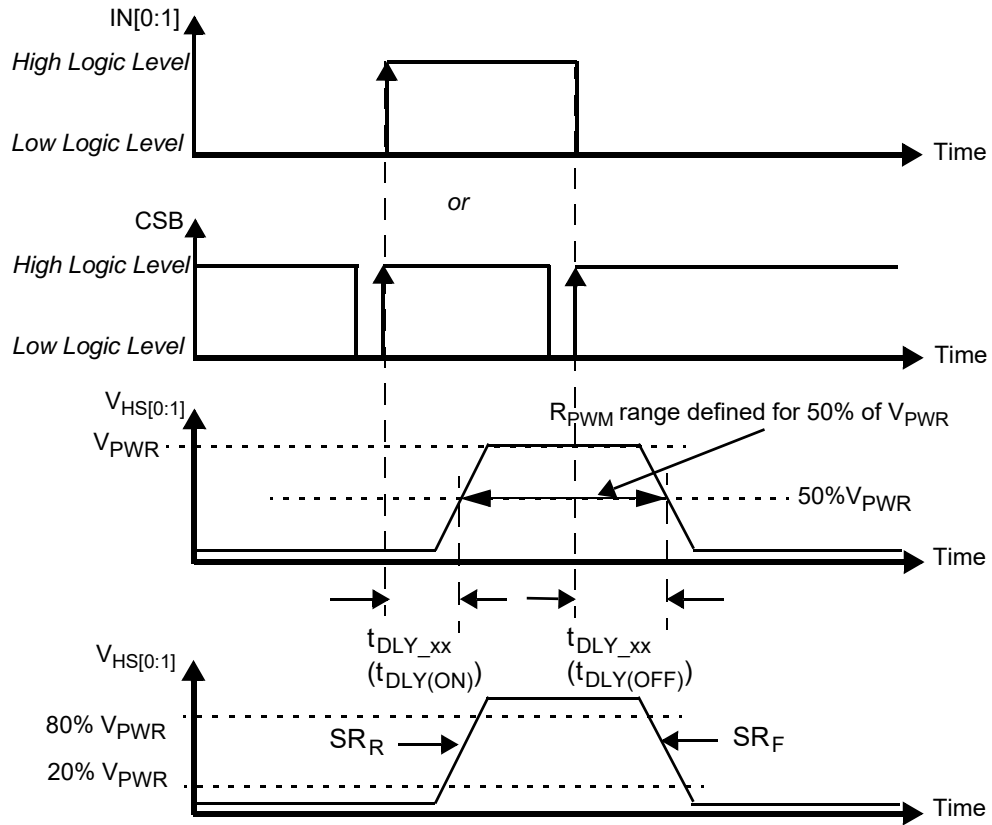
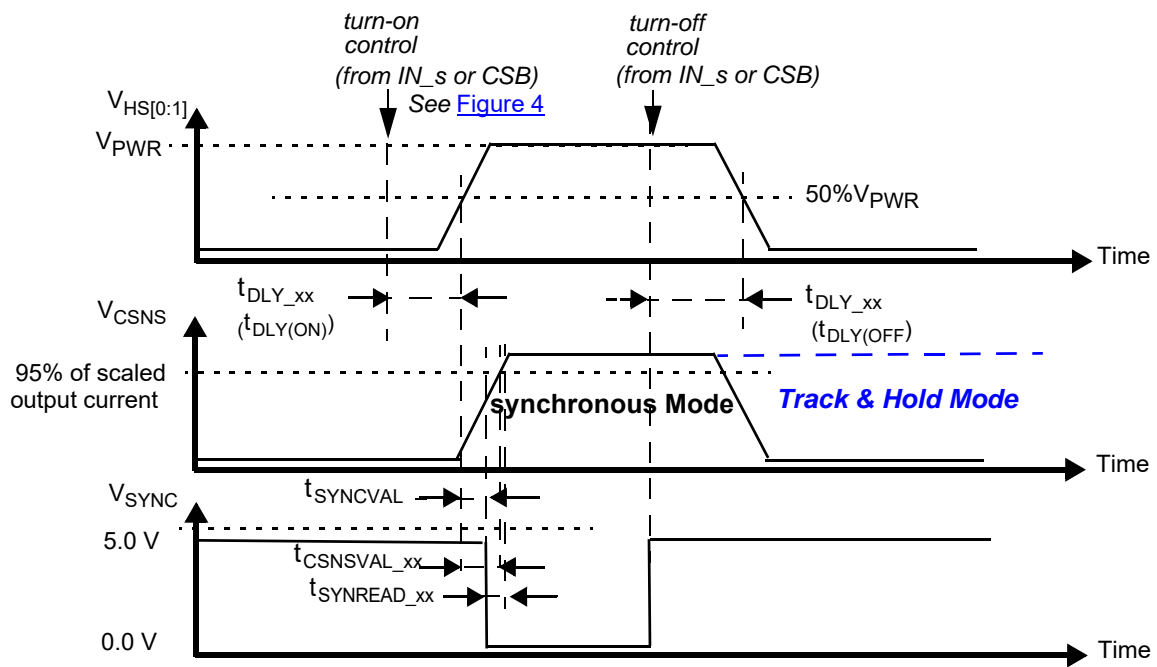

Figure 4. Output voltage slew rate and delay
Figure 9. Synchronous and Track & Hold current sensing modes: associated delay and settling times
30. Rising and Falling edge slew rates specified for a 20 to 80% voltage variation on a $10\ \Omega$ resistive load (see Figure 4).
32. Time required to switch off the channel after detection of overtemperature (OT), overcurrent (OC), SC or UV error (time measured between start of the negative edge on the FSB pin and the falling edge on the output voltage until $V(\text{HS}[0:1]) = 50\%$ of V_{PWR}).
33. Settling time ($= t_{\text{CSNSVAL_xx}}$), SYNC output signal delay ($= t_{\text{SYNCVAL_xx}}$) and Read-out delay ($= t_{\text{SYNREAD_xx}}$) are defined for a stepped load current ($100\text{ mA} < I(\text{LOAD}) < I(\text{OCLX A FOR CSNS_RATIO_S} = 1, \text{ AND } 300\text{ mA} < I(\text{LOAD}) < I(\text{OCLX A}_0 \text{ FOR CSNS_RATIO_S} = 0)$). (see Figure 9 and Output current monitoring \(CSNS\))
34. Settling time ($= t_{\text{CSNSVAL_xx}}$), SYNC output signal delay ($= t_{\text{SYNCVAL_xx}}$) and Read-out delay ($= t_{\text{SYNREAD_xx}}$) are defined for a stepped load current ($100\text{ mA} < I(\text{LOAD}) < I_{\text{OCLX A}}$ FOR $\text{CSNS_RATIO_S} = 1$, AND $300\text{ mA} < I(\text{LOAD}) < I_{\text{OCLX A}_0}$ FOR $\text{CSNS_RATIO_S} = 0$). (see Figure 9 and Output current monitoring \(CSNS\))
The CS pin allows independent current monitoring of channel 0 or channel 1 up to the steady-state overcurrent threshold. It can also be used to sense the device temperature. The different functions are selected by setting bits CSNS1_en and CSNS0_en to the appropriate value (Table 23). When the CSNS pin is sensed during switch-off in the (optional) track & hold mode (see Figure 9), it outputs the scaled value of the load current as it was just before turn-Off. When several devices share the same pull-down resistor, the CSNS pins of devices, the current of which is not monitored, must be tri-stated. This is accomplished by setting CSNS0_en = 0 and CSNS1_en = 0 in their GCR register (Table 12). Settling time ($t_{CSNSVAL_XX}$) is defined as the time between the instant at the middle of the output voltage’s rising edge ($HS[0:1] = 50\%$ of V_{PWR}), and the instant at which the voltage on the CSNS pin has settled to $\pm 5.0\%$ of its final value. Anytime an overcurrent window is active, the CSNS pin is disabled (see Overcurrent detection on resistive and inductive loads). The current and temperature sensing functions are unavailable in Fail-safe mode and in Normal mode when operating without the V_{DD} supply voltage. In order to generate a voltage output, this pin requires a pull-down resistor ($R(CSNS)=1.0\text{ k}\Omega$ typ. and $470 < R(CSNS) < 10\text{ k}$). When the current sense resistor connected to the CSNS pin is disconnected, the CSNS voltage is clamped to $V_{CL(CSNS)}$. The CSNS pin can source currents up to about 5.6 mA.
To synchronize current sensing with an external process, the SYNC signal can be connected to a digital input of an external MCU. An open-drain pull-down on SYNC indicates that the current sense signal is accurate and ready to be read. The current sense signal on the CSNS pin has the specified accuracy $t_{SYNCREAD_XX}$ seconds after the falling edge on the SYNC pin (Figure 9) and remains valid until a rising edge is generated. The rising edge that is generated by the SYNC pin at the turn-OFF instant (internal or external) may also be used to implement synchronization with the external MCU. Parameter $t_{SYNCVAL_XX}$ is defined as the time between the instant at the middle of the output voltage rising edge ($HS[0:1] = 50\%$ of V_{PWR}), and the instant at which the voltage on the SYNC-pin drops below 0.4 V (V_{SOL}). The SYNC pins of different devices can be connected together to save micro-controller input channels. However, in this configuration, the CSNS of only one device should be active at a time. Otherwise, the MCU is not be able to determine the source of the SYNC signal. The SYNC pin requires an external pull-up resistor to V_{DD} .